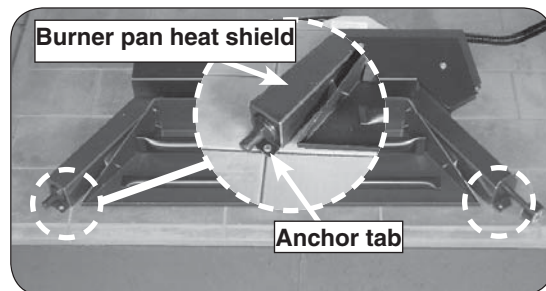

Fig. 13-4 Secure burner to floor
3. The burner system must be secured to the fireplace floor. The unit has two anchoring tabs located at the front of the burner pan heat shield. Using the appropriate hardware for your fireplace construction (not included), secure the burner system into the fireplace floor (see Fig. 13-4).